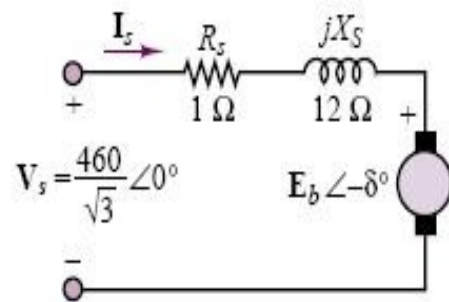

Figure 17.36
**Analysis:** The circuit model for the motor is shown in Figure 17.36. The per-phase current in the wye-connected stator winding is